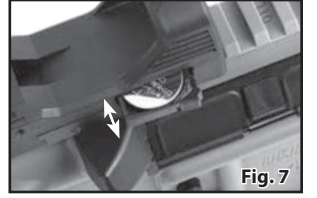

Fig. 7
3. Insert the tray back into the red dot sight (Fig. 7).